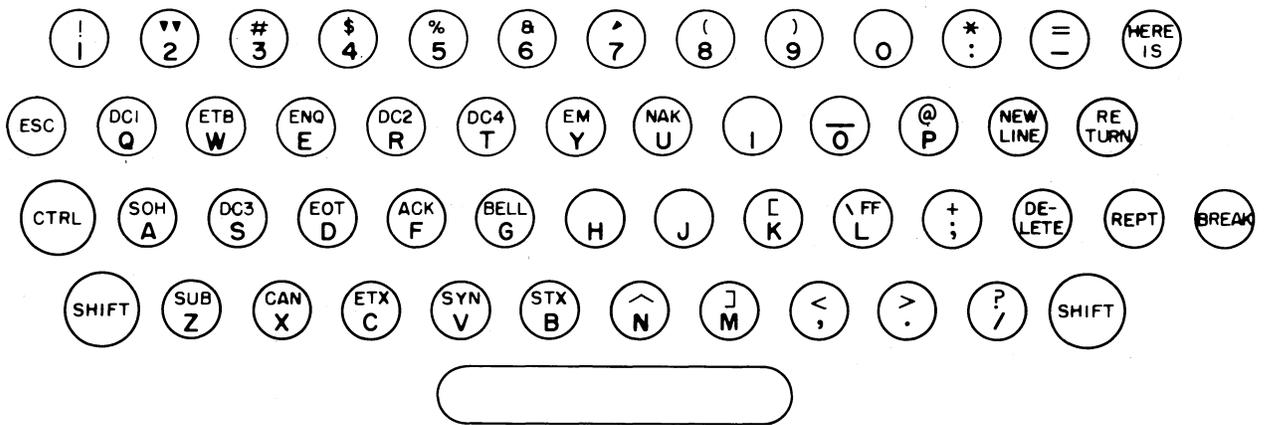

Figure 3 - 33 Teletypewriter Keyboard Arrangement
3.09 The keyboard arrangement for the 33 KSR and ASR stations is shown in Figure 3. The keytop designations conform to ASCII (American National Standard Code for Information Interchange) code. Following is a brief functional description of some keytop designations:
3.22 The keyboard arrangements for the 33 and 35 stations with data set 113A-type are similar to those of stations with data set 103G-type shown in Figures 3 and 4 respectively.
3.31 Since the 33 and 35 stations with 403E-type data sets are receive-only stations, and because of the limited number of code combinations available, automatic operation of the tape punch is not possible. Operation of the tape punch, tape reader, and keyboard on ASR stations is limited to local operation. The 33 and 35 keyboards are as shown in Figures 3 and 4 respectively.
3.35 The automatic features of the 33 tape punch and tape reader, as well as the automatic capabilities of the 35 tape reader can be utilized in operation with data set 103A-type. The keyboard arrangements for the 33 and 35 are as shown in Figures 3 and 4 respectively.